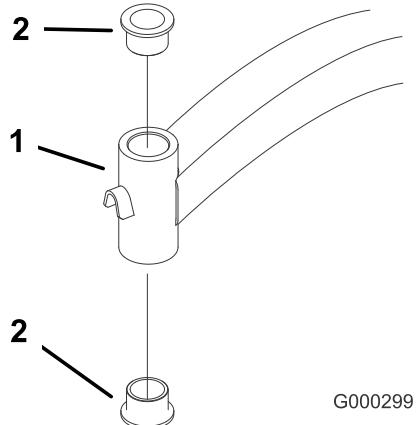

Figure 36
- Insert a pin punch into the mounting tube and carefully drive out the bushings (Figure 36). Clean the inside of the mounting tube.